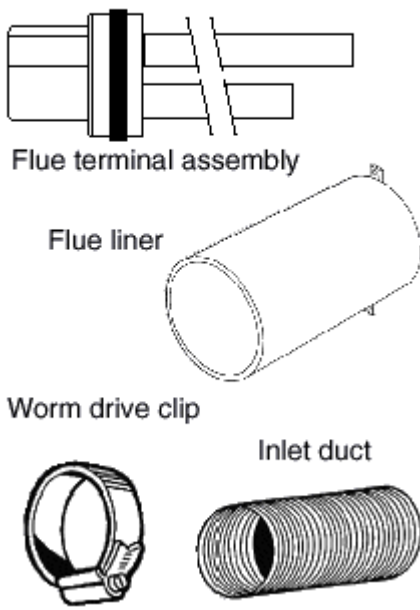

Fig. 9.2
4. Flueing If installing boiler with vertical RS balanced flue see separate instructions supplied with vertical flue kit. If installing boiler with an extended horizontal balanced flue go to Section 17 of these instructions. If installing boiler with a Ridge Tile Terminal or Mini Terminals, see separate instructions supplied with each kit. The standard flue kit P260 contains the following components, See Fig.9.2